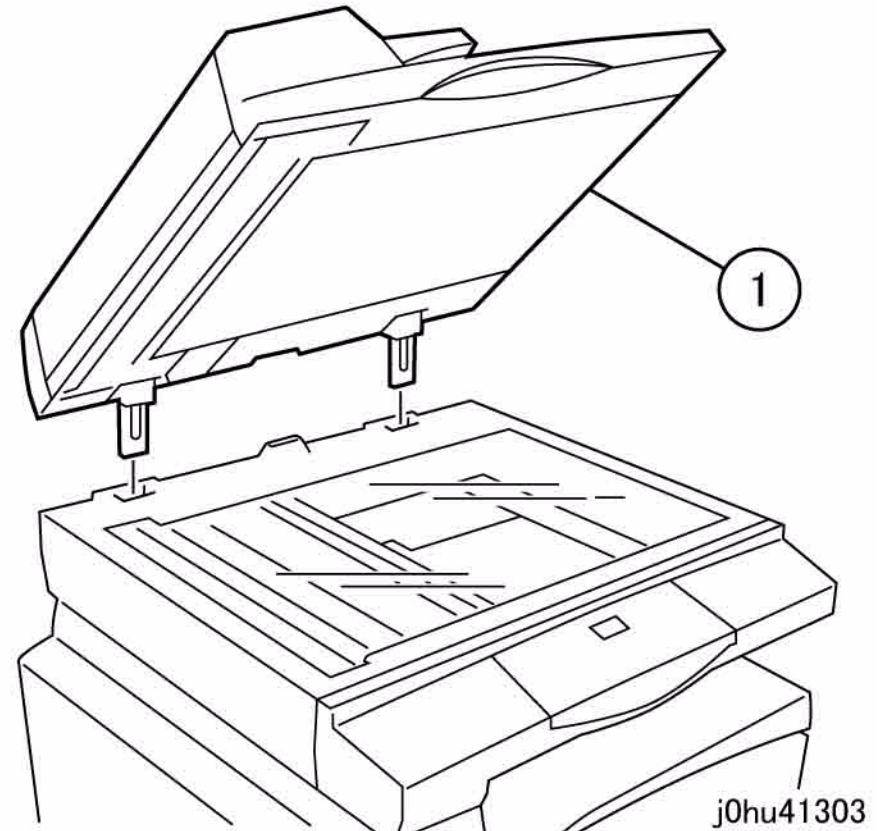

Figure 3 Remove the DADF
5. Remove the DADF (Figure 3).